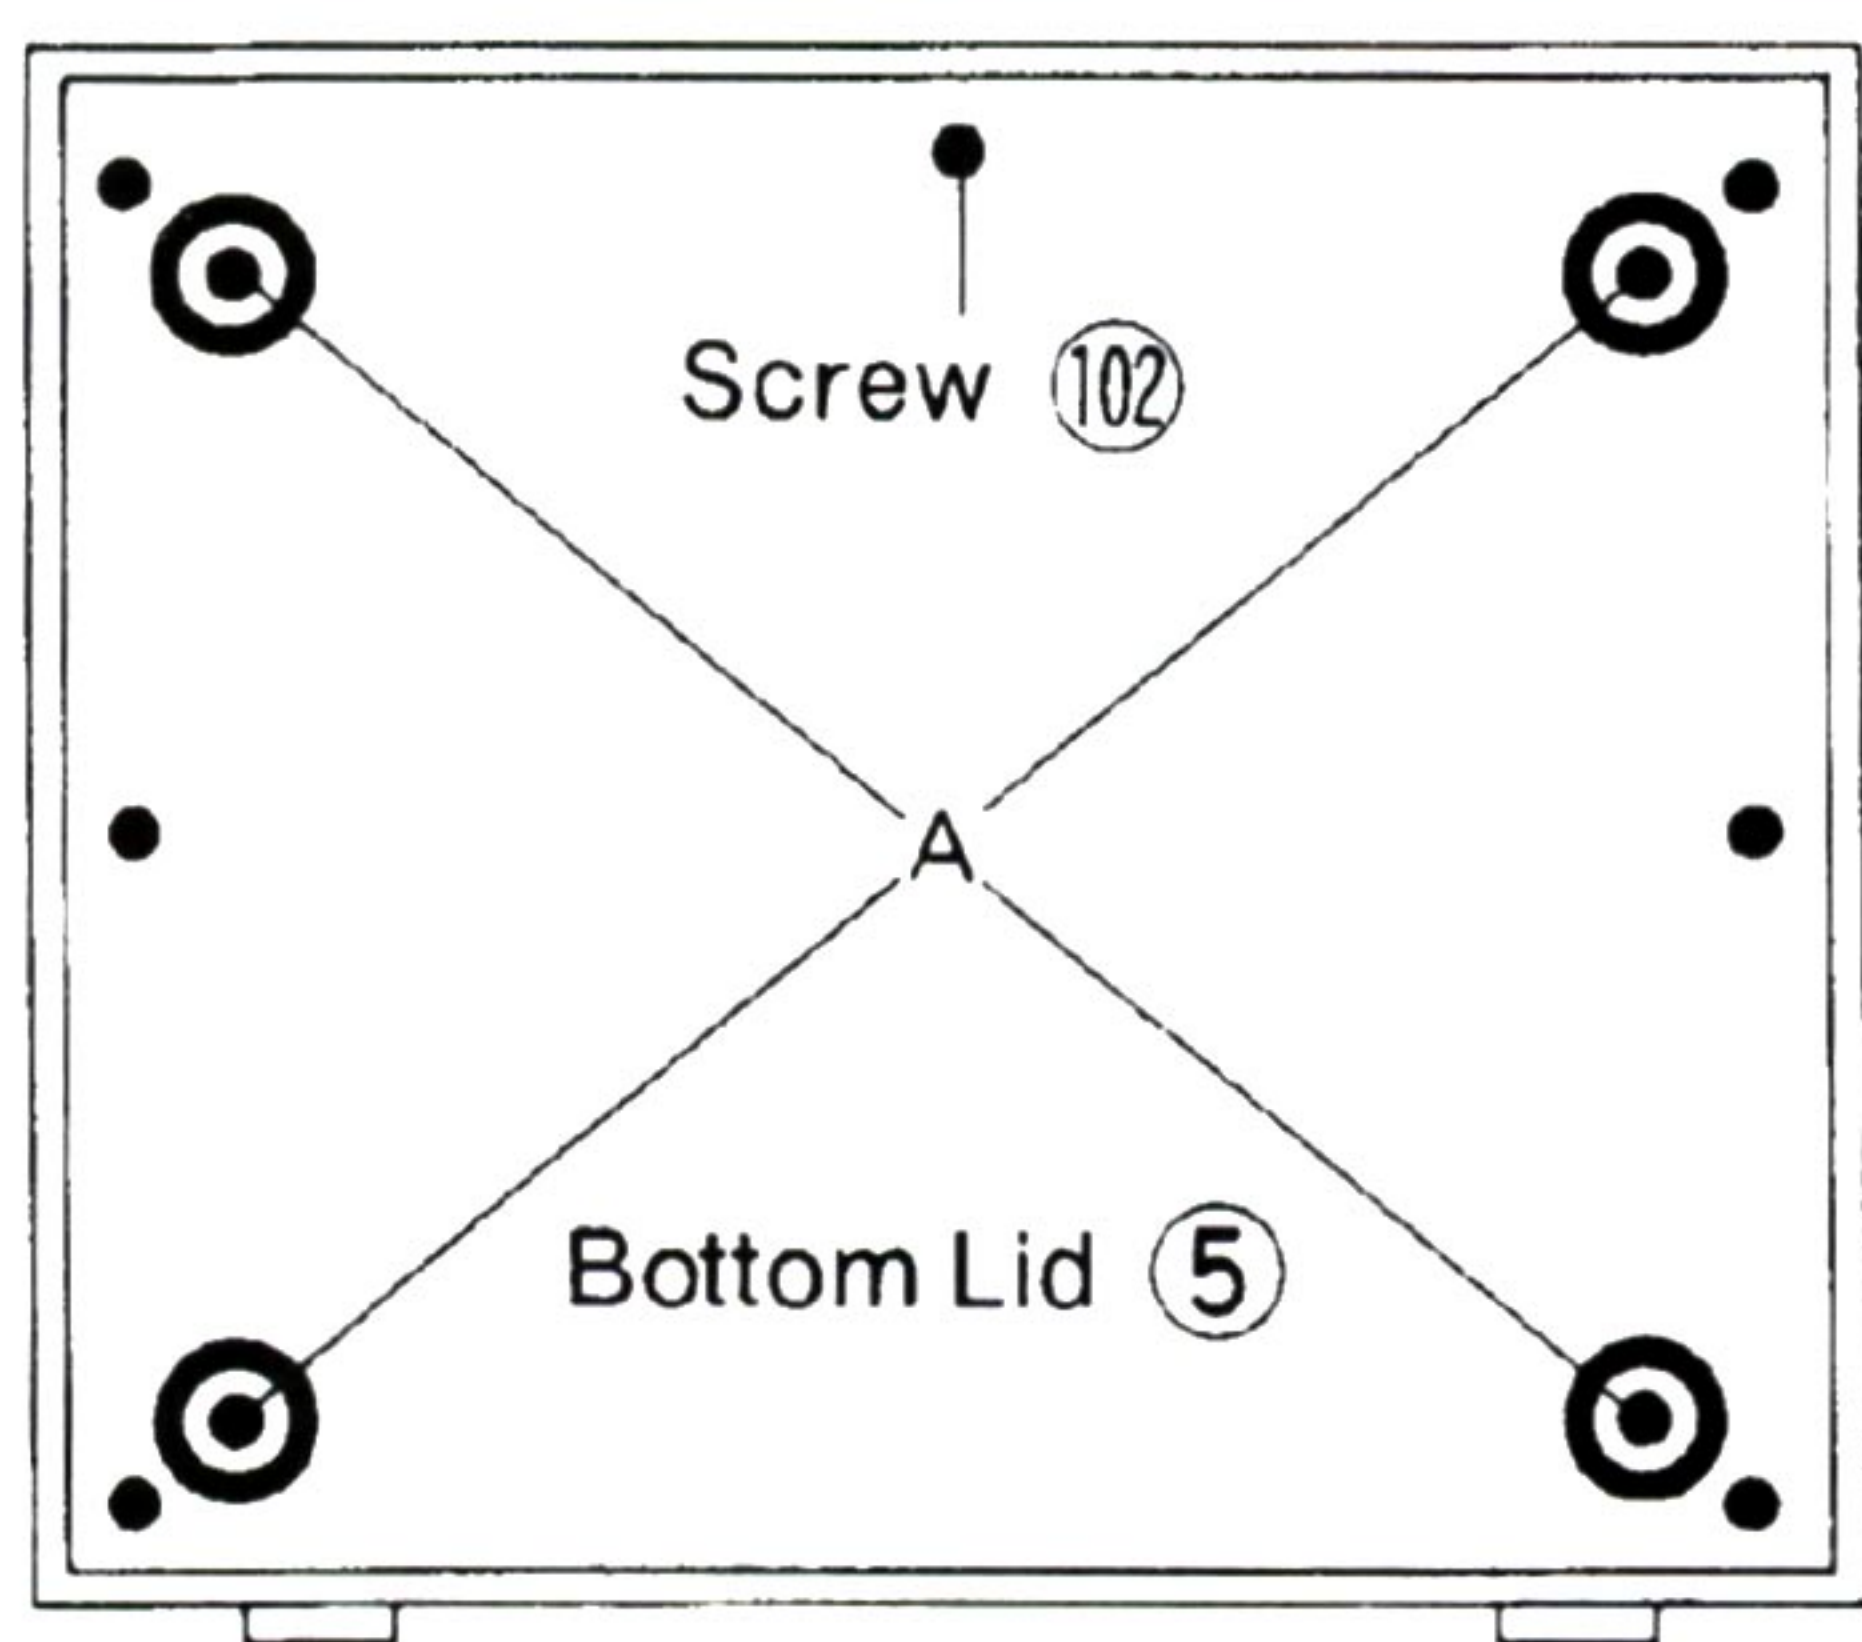

Fig. 2
1. Remove Dust Cover (11).
2. Fasten Tonearm (43) to Retainer Ass'y (16).
3. Remove Turntable Sheet (24) and remove Belt (36) from Phono Motor (52) pulley.
4. Remove turntable (39).
5. Position the unit upside down and remove seven Screws (102) which mount Bottom Lid (5) to Cabinet (1) and four Screws (28) (A in Fig. 2) which mount Leg (19) to Cabinet (1).